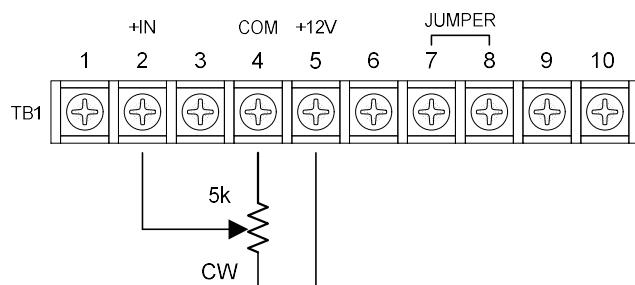

Figure 4.3 Remote Control with a Potentiometer
- a. With the power to the ZF2/ZF3 turned off, connect the potentiometer as shown in Figure 4.3. The CW position is the full power output position. Terminal TB1-5 is internally connected to a positive dc voltage source.